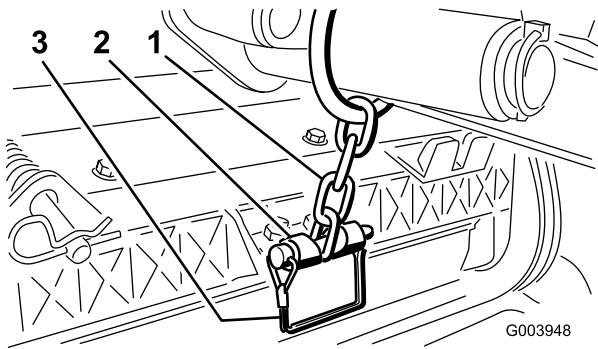

Figure 13
- 12. Secure the lift arm chain to the chain bracket with the snapper pin (Figure 13). Use the number of chain links described in the cutting unit *Operator's Manual*.